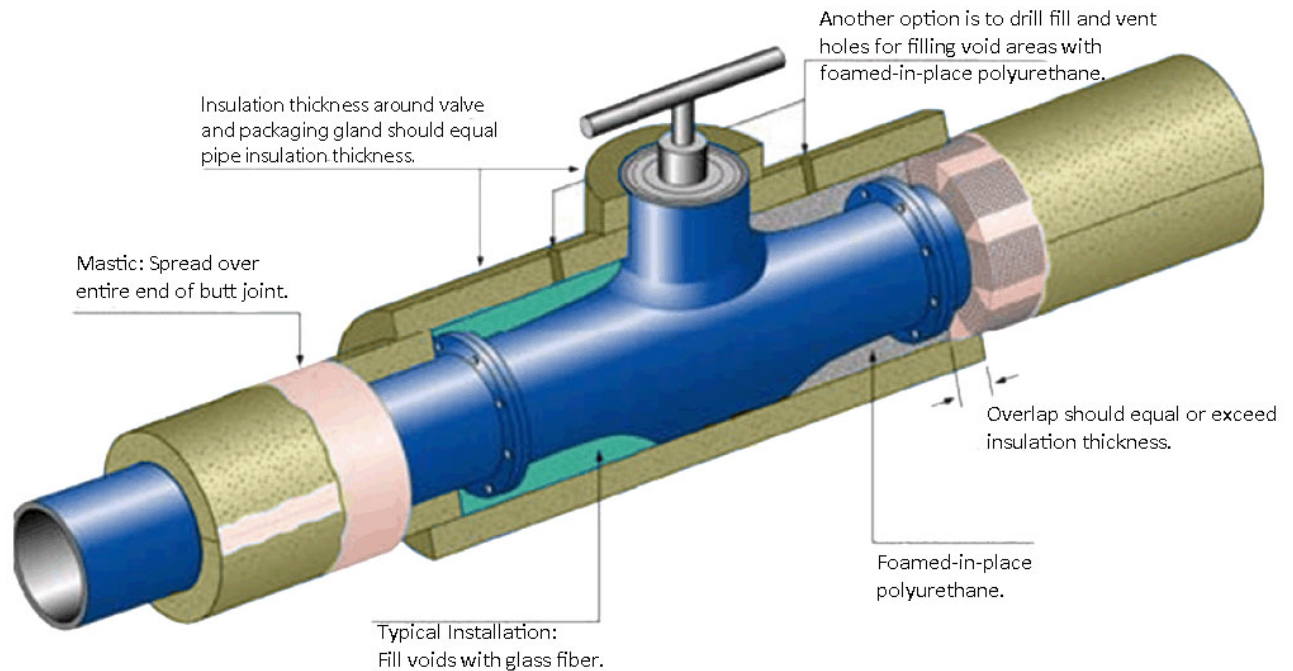

Figure 1
- 3.2.2 Fittings, such as valves, valve stations, flanges, 90° and 45° elbows, and tees shall be two pieces fly-cut or routed as the preferred fabrication method. For diameters too large for fly cutting or routing, the pieces shall be fabricated in two halves with each half made up of mitered sections. Both methods shall be in accordance with ASTM C-450 and ASTM C-585. Larger outer diameter valves and flanges may be slightly oversized and cavities filled with tightly packed loose glass fiber or polyurethane spray foam (see Figure 1 in Appendix B). The size and number of cavities shall be kept to a minimum. Refer to application section 4.1.2 for related additional information.